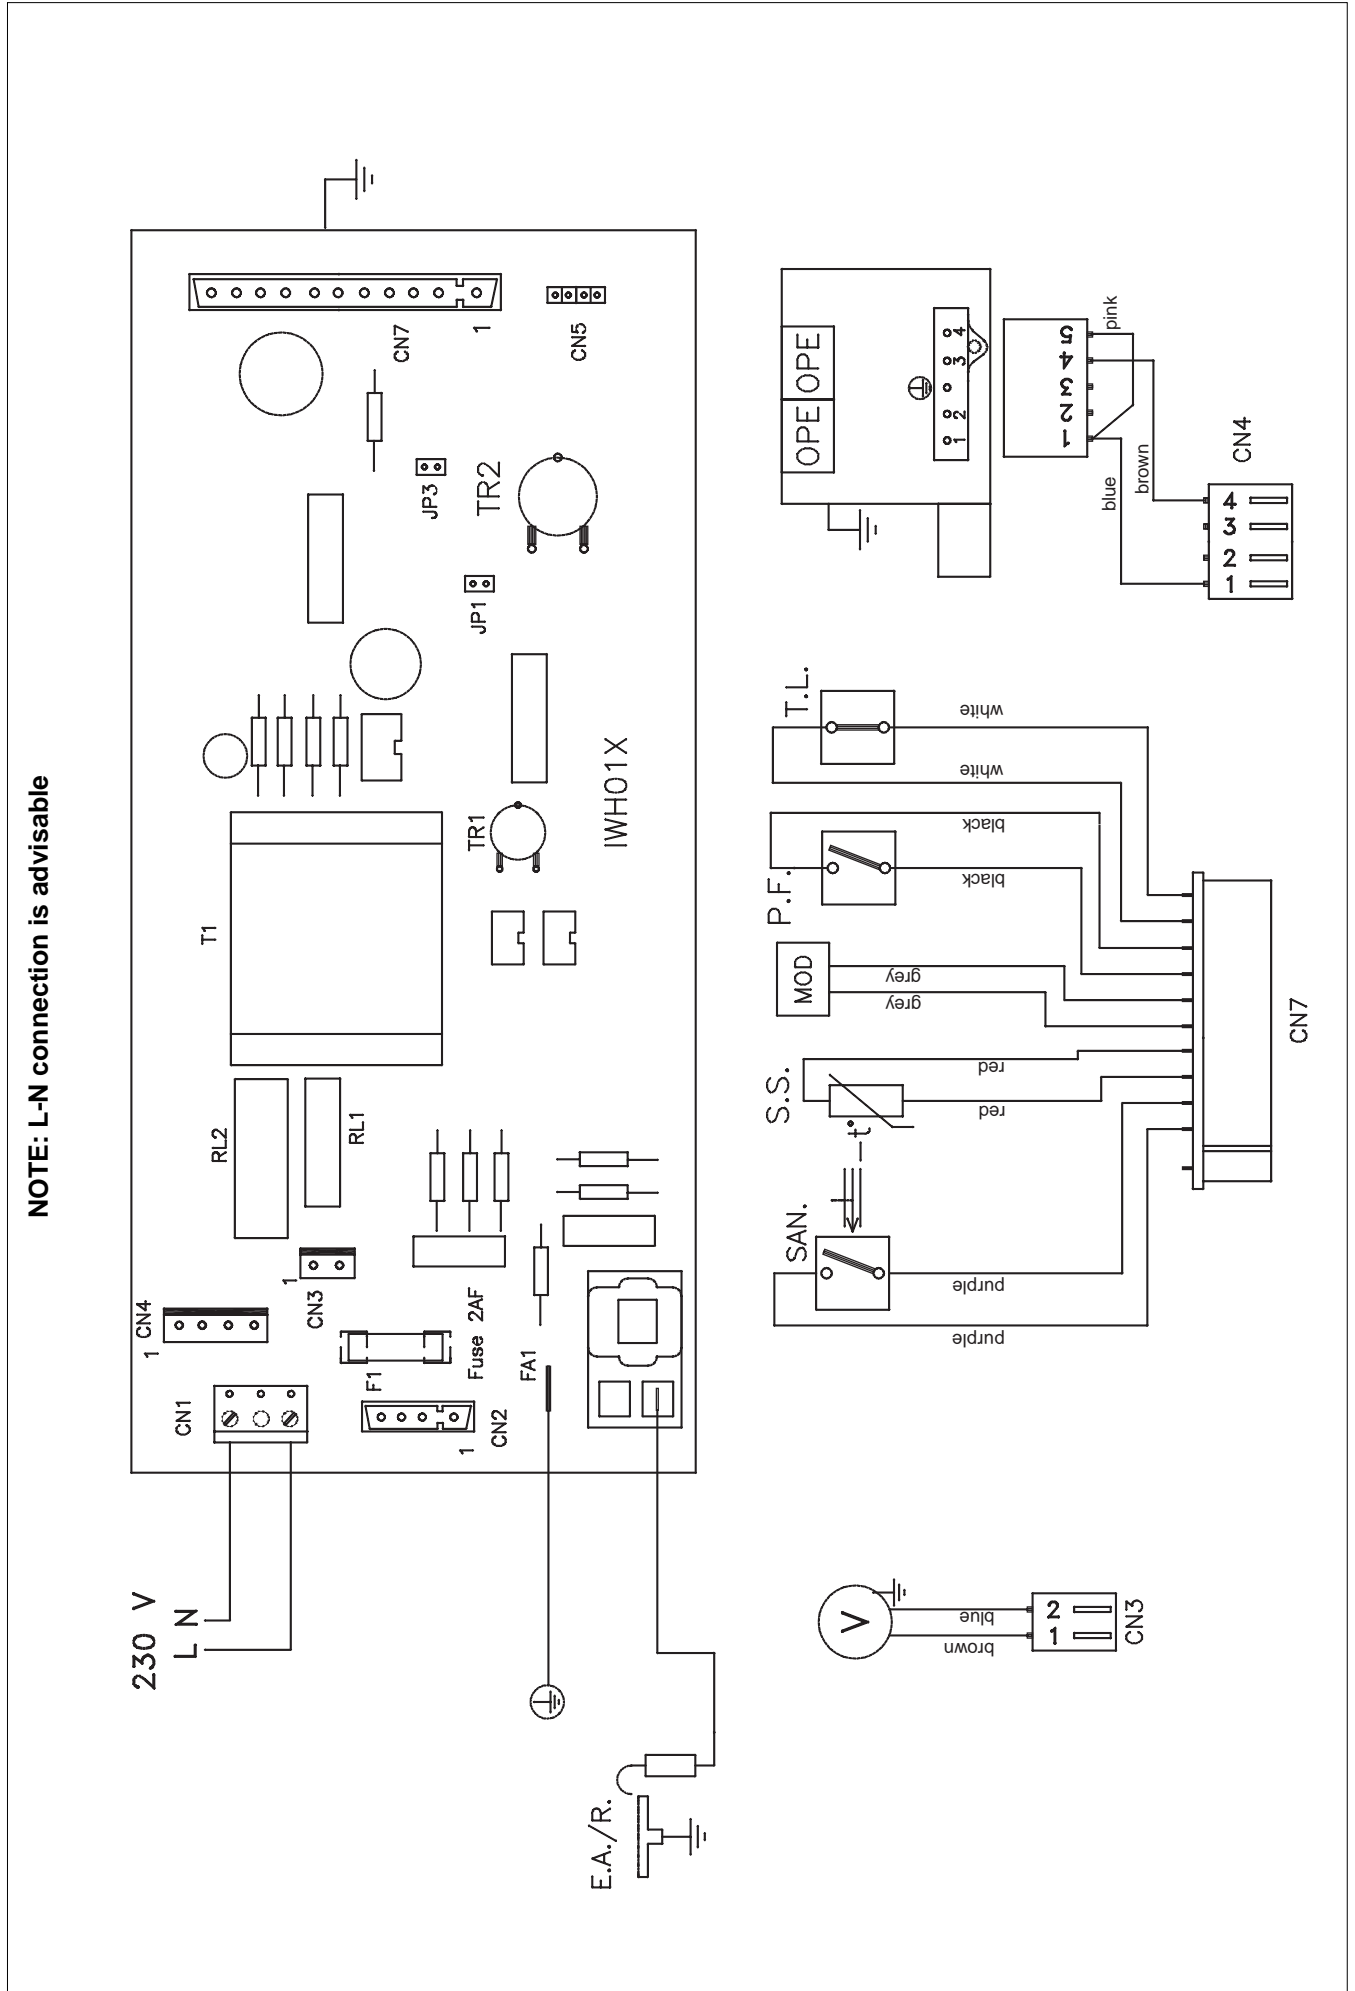

Fig. 21
8.1 EXTERNAL WIRING (see fig. 21)